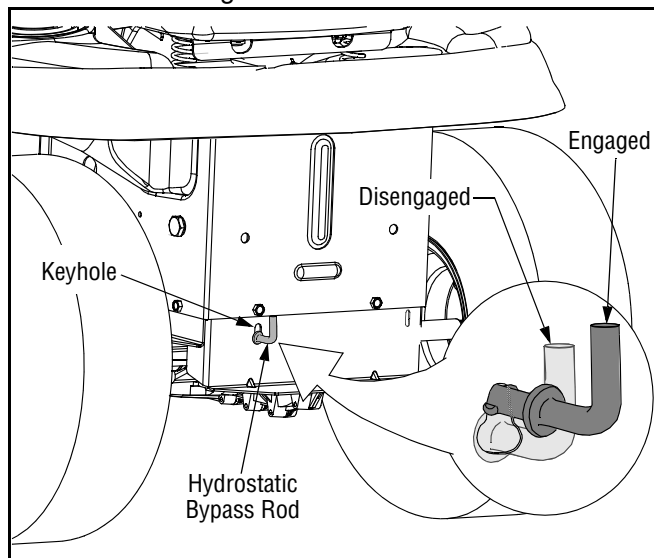

Figure 8
- Locate the hydrostatic bypass rod in the rear of the tractor. See Figure 8.
- Pull the hydrostatic bypass rod outward until the two locking ears are outside of the keyhole in the drawbar; then lift upward to lock in the engaged position. See Figure 8.